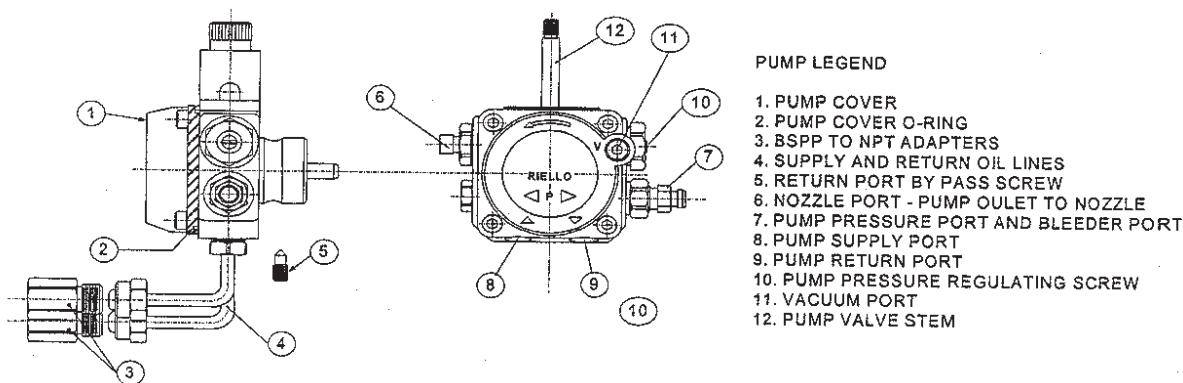

Figure 9: Pump Connections and Port Identification
- g. **Pump Connections and Port Identification**, refer to Figure 9.